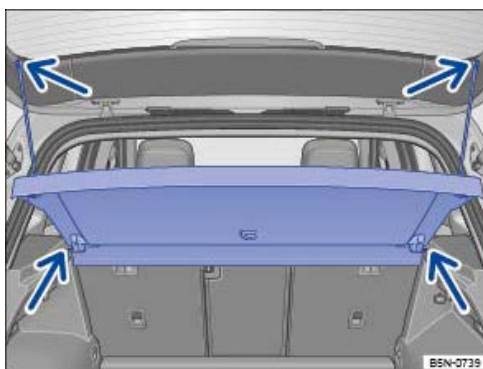

Fig. 213 In the luggage compartment: removing the luggage compartment cover.
- Unhook the retaining straps from the boot lid → Fig. 213 (upper arrows).
- Press the luggage compartment cover back and upwards out of the side retainers → Fig. 213 (lower arrows).
- Push the luggage compartment cover into the side retainers from above → Fig. 213 (lower arrows).
- Hook the retaining straps to the boot lid → Fig. 213 (upper arrows).